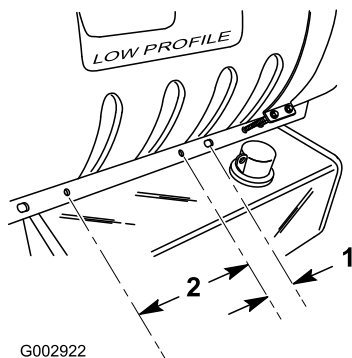

Figure 3
3. On the tank saddle on the right side of the machine, locate the third hole from the front of the machine. Measure and mark a location on the tank saddle 2 inches (5 cm) behind the center of the 3rd hole (Figure 3).
4. From your mark, measure 10 inches (25 cm) rearward and mark that location (Figure 3).
5. Drill 2 holes (7/16 inch dia) at the marked locations, centered vertically in the tank saddle (Figure 3).